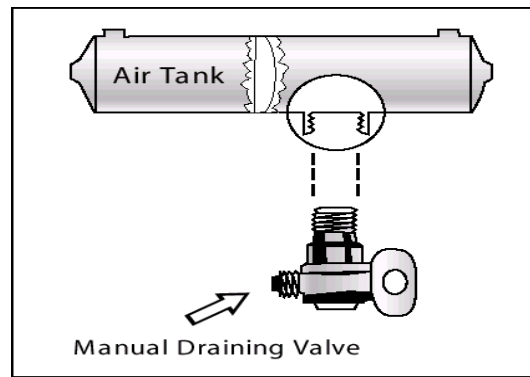

Figure 5.1
- **Manual:** Operated by using your hands to turn or by pulling a cable. You must drain the tanks yourself at the end of each day of driving. See Figure 5.1.